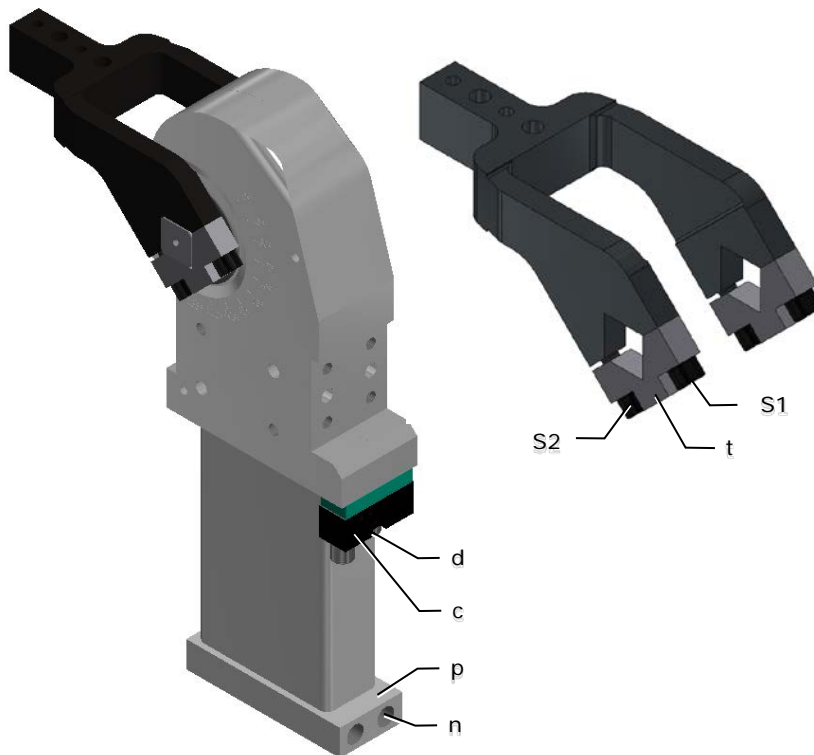

Fig. 5.2-1: Example of assembling the clamping arm type 1
1. Connect the compressed air supply between the pneumatic control and the clamp (connections "n" Fig. 5.2-1).